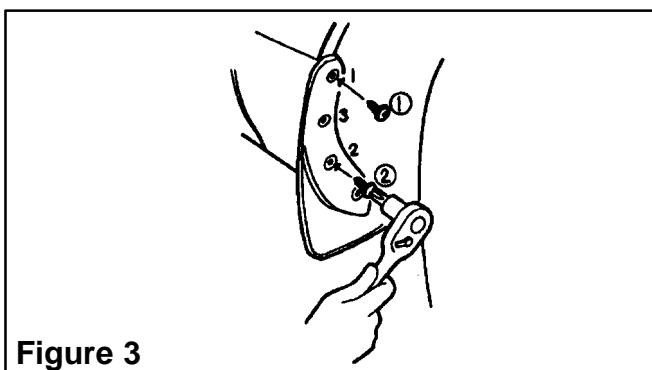

Figure 3
3. Re-using screws 1 and 2, install the mudguard at points 1 and 2, while holding the mudguard against body to ensure proper fit and tighten down screws (See Figure 3).